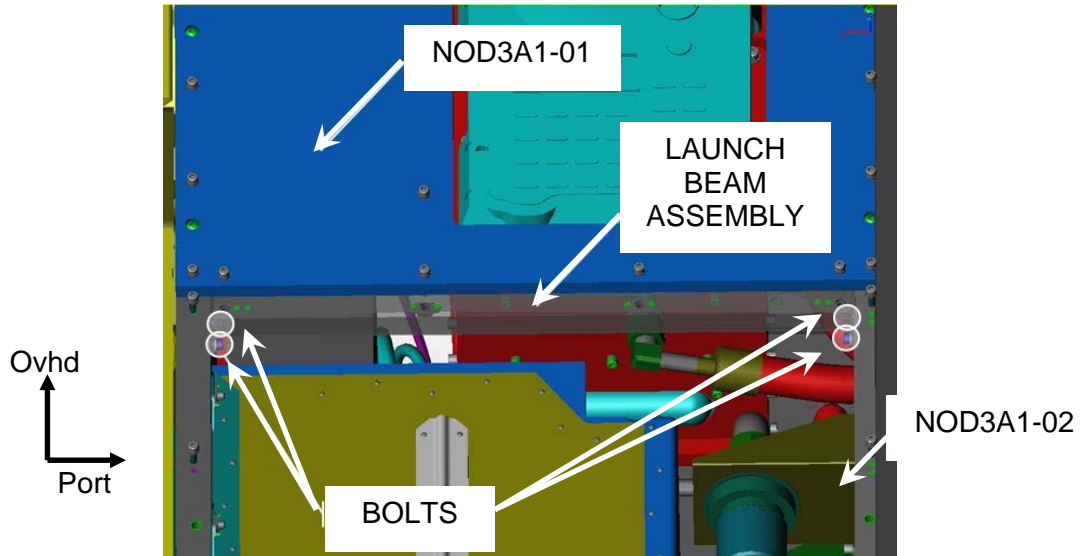

Figure 4.- Launch Beam Assembly Bolt Location.
- 3.3 Remove non-captive Launch Restraint Bolts (4) from Launch Beam Assembly (Driver Drill; Hex Shank, 5/32" Hex Head, 1/4" Drive). Stow bolts and washers in Ziplock Bag. Refert to Figure 4.